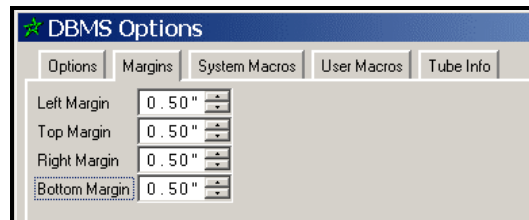

Figure 16-10. DBMS Options Dialog -Margins Tab
- STEP 8:** The *Margins* tab of the *Options* dialog should look like Figure 16-10. Click **OK**.